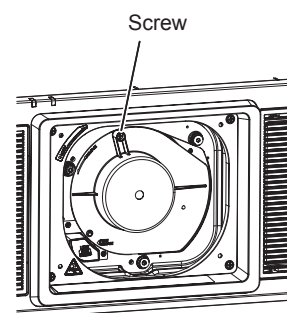

Fig. 3
4) Secure the lens hole cover. (Fig. 3)